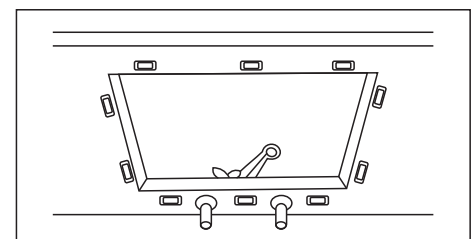

FIGURE 3
- 5.Locate the drill holes on the underside of the countertop, approximately 1"from edge of the sink to be installed. Holes should be evenly spaced approximately 6" to 8"apart starting from every corner as shown in(FIGURE 3). It is recommended to install a faucet at this point before installing the sink.